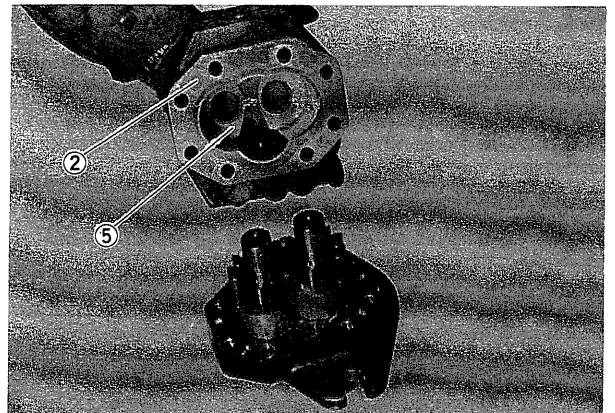

Fig. 111
- 2) Separate body ② together with bearings ⑤. (Fig. 111)